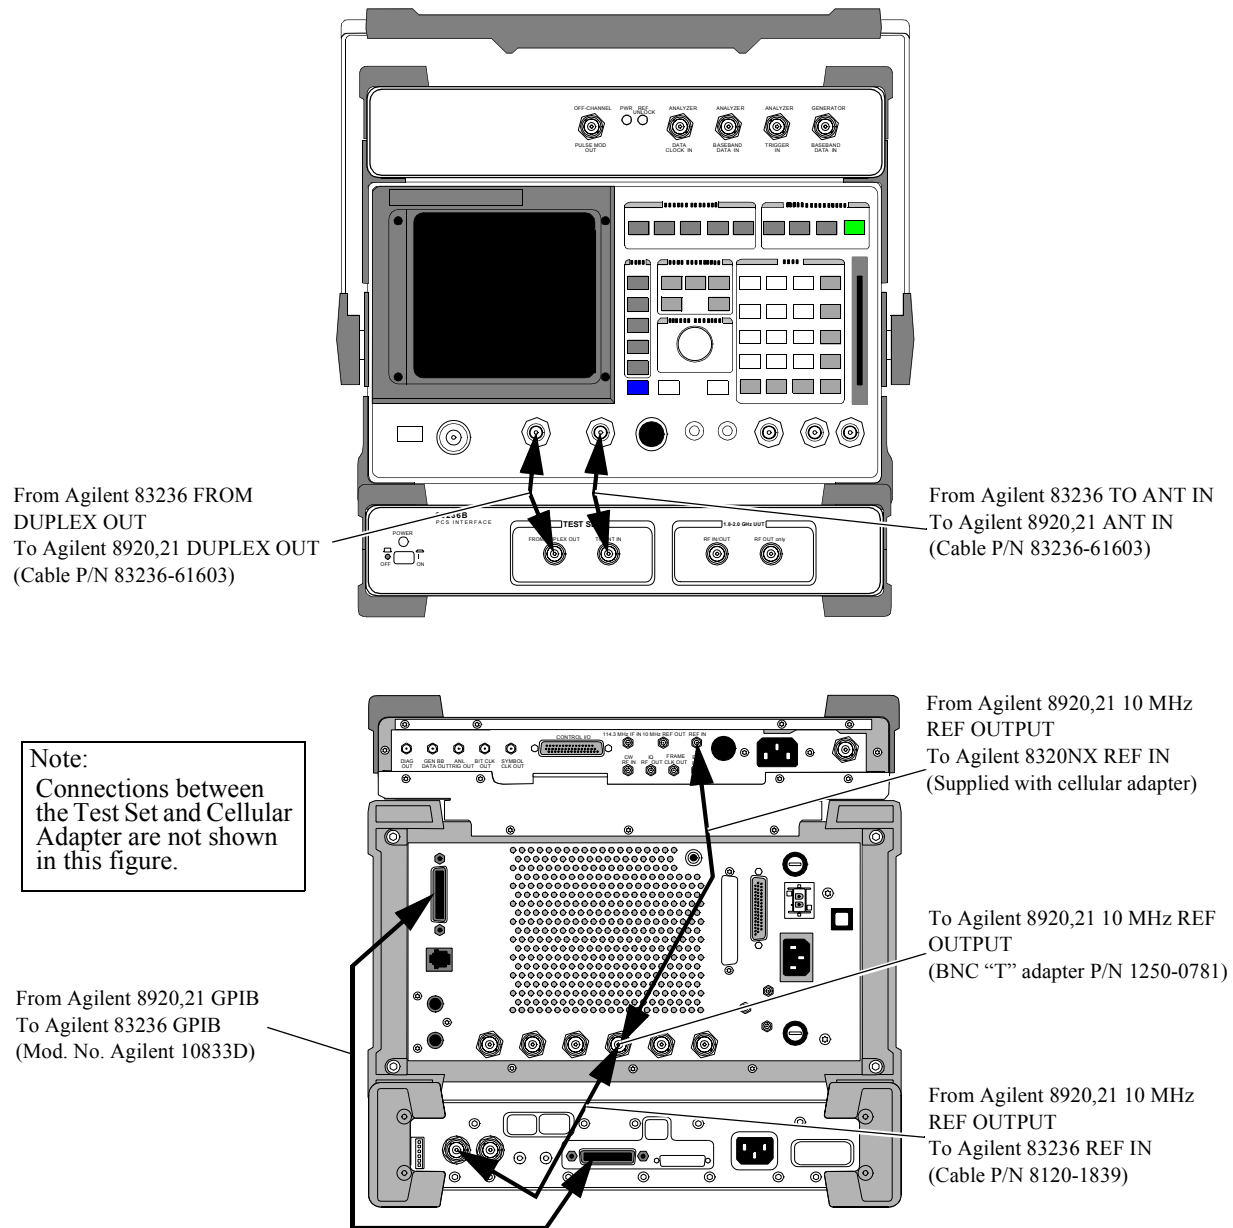

Figure 20
- 3 When you are testing base stations, make front and rear panel connections shown in figure 20.